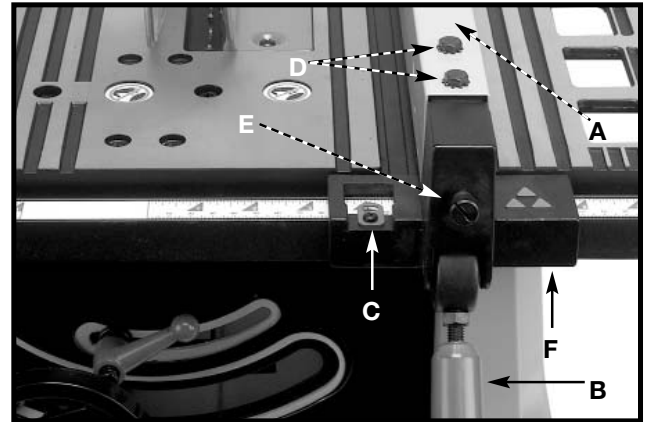

Fig. 33
1. To move the rip fence (A) Fig. 33 along the table, lift up the fence locking lever (B), slide the fence to the desired location on the table, and push down the fence locking lever (B).
4. Position the fence next to the miter gauge slot (Fig. 33). Clamp the fence to the table by pushing the locking lever (B) down. The edge of the fence should be parallel to the miter gauge slot.
5. If an adjustment is necessary, loosen the two screws (D) Fig. 33, and lift the locking lever (B). While holding the fence bracket (F) firmly toward the front of the saw, move the rear of the fence (A) until it is parallel with the miter gauge slot. Tighten two screws (D) and push locking lever down (B).
6. Adjust the clamping action of the fence (A) Fig. 33 by lifting the locking lever (B) and turning the screw (E) clockwise to increase, or counterclockwise to decrease the clamping action of the fence.